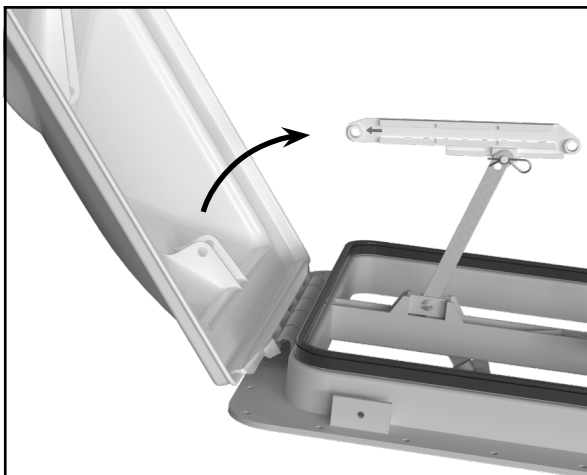

Figure 20
- e. Align the hinge on the lid with the hinge on the vent and rotate the lid towards the installed cross bar and install the universal cross bar into the lid. **(Figure 20)**